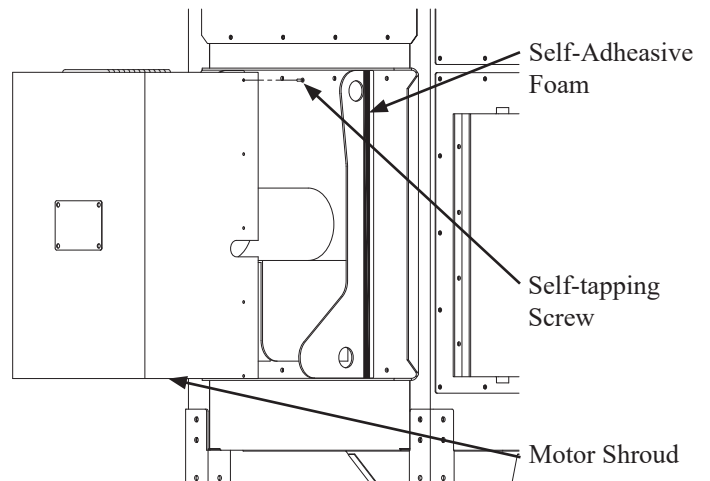

FIGURE 11
1. Place the motor shroud, as shown in Figure 11 over the motor having located the slotted hole of the motor shroud on the right hand side. This will allow the wiring conduit to clear the motor shroud.
2. With the shroud in place mark the centers of the six (6) holes in each vertical brace.
4. Apply the self-adhesive foam to the vertical braces as shown in Figure 11.
5. Re-install the motor shroud around the motor and attach using the twelve (12) self-tapping screws provided.